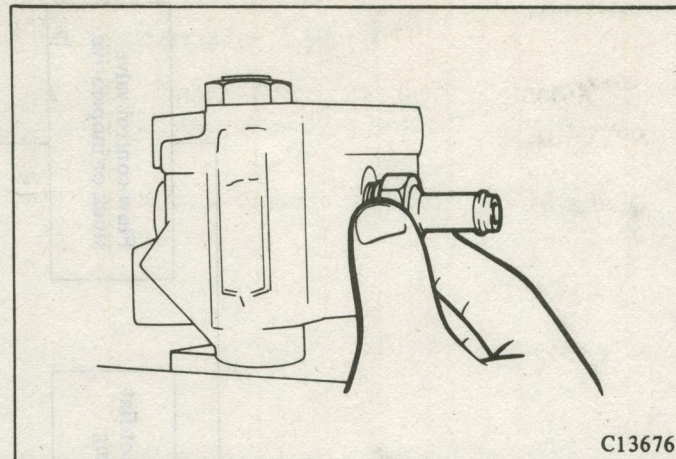

Fig. 94 Removing the Suction Port Assembly
- (2) Remove the suction port assembly using proper wrench. (Fig. 94)